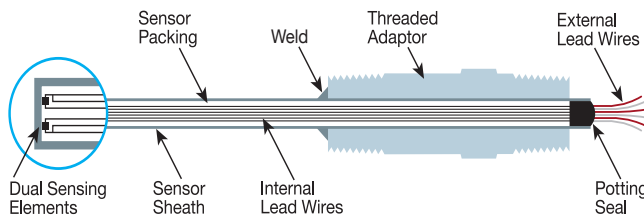

Figure 4-16: Dual Element RTD
- Consider dual element sensors for redundancy and for the Hot Backup feature or where the measurement may be connected to two separate systems or devices. See Figure 4-16.